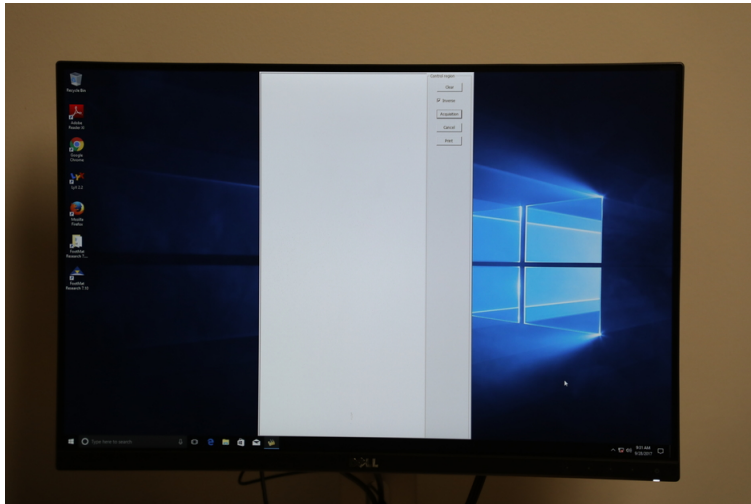

Figure 2: Everspry acquisition screen before a scan is taken
4. Before the technician steps up onto the platform, make sure that the acquisition screen is blank and free of previous prints (Figure 2).